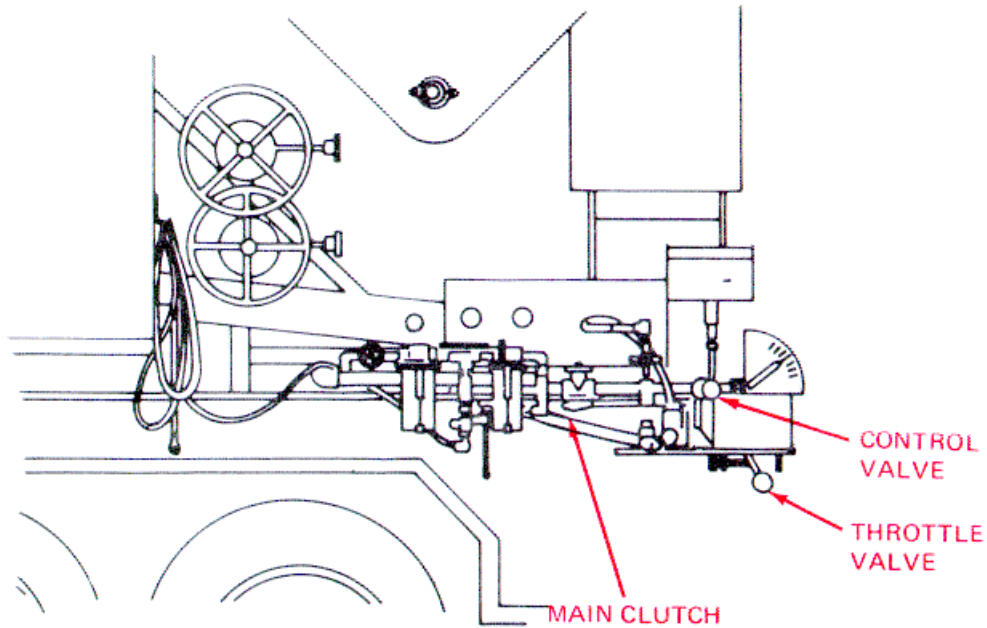

Figure 2-41. Main Clutch and Control Valve.
- e. Engage Main Clutch and Control Valve. (See fig. 2-41).
- (1) Pull the control valve towards the mixing trough. This starts the mixing auger.
- (2) Pull main clutch lever towards mixing trough. This actuates the main conveyor belt and starts delivery of all ingredients.
- a. Disengage the Main Clutch and Close the Control Valve. (See fig. 2-41.)
- (1) Push the main clutch lever forward. This stops ingredients delivery and main conveyor operation.
- (2) Allow the mixing trough to empty mixed ingredients, then push the control valve lever forward.
- (3) Pull the throttle lever against the rear stop.